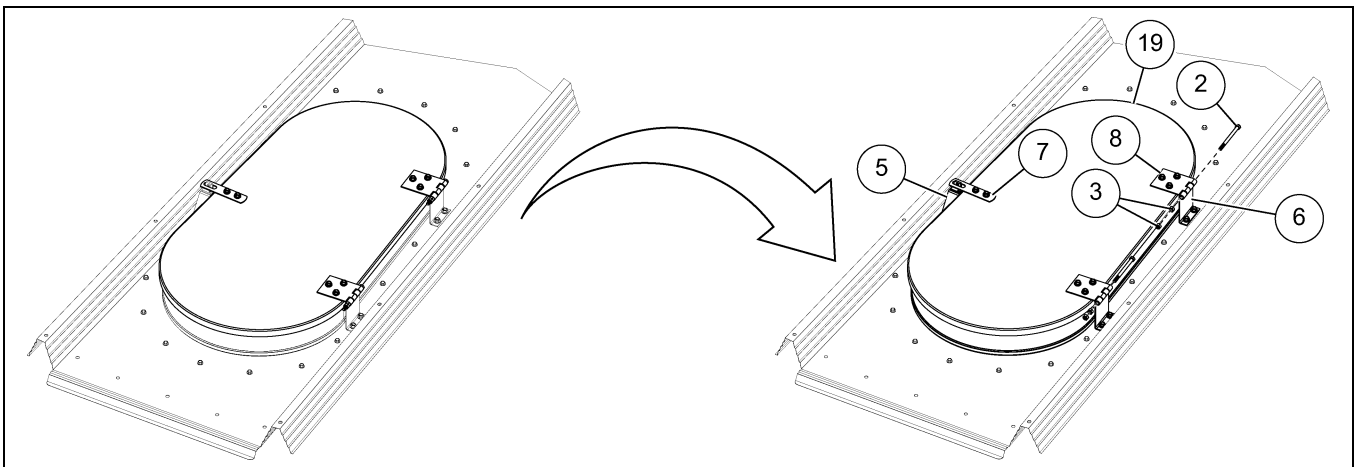

Figure 7 Installing the Manway Cover
10. Align the hinge leaves (8) of the manway cover assembly (19) with the hinge bases (6) and install using 5/16" x 4" HHCS bolts (2) and 5/16" hex nuts (3). (See Figure 7.)